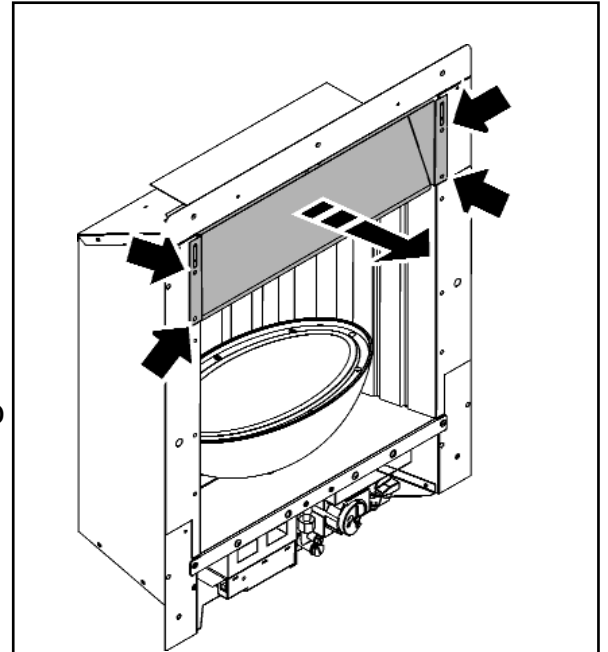

Figure 34. Spillage plate removal
2. Detach the spillage plate from the hotbox by removing the four screws (See figure 34).